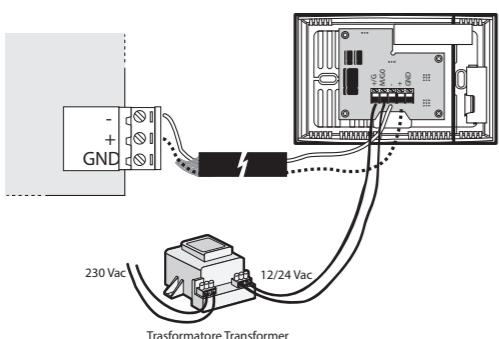

Fig. 7
- basic insulation is required from the mains power supply for the controller that the probe is connected to. To avoid errors due to the power supply current, an additional power supply from external transformer can be used (Fig. 7).